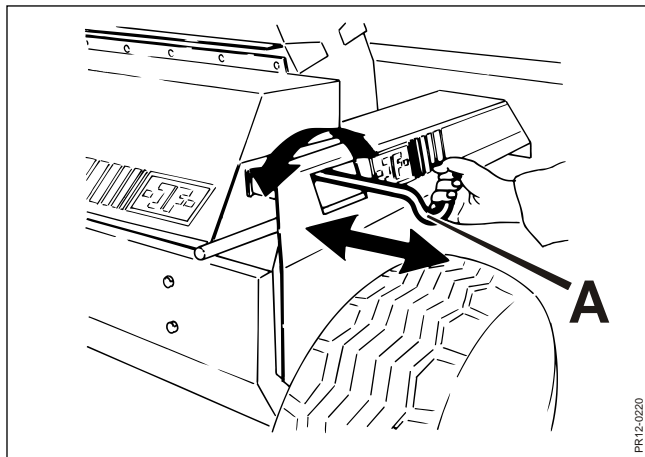

Fig. 4-21
- Fig. 4-21** 3. Adjust the grindstone so that there is 2-3 mm clearance between the stone and the blades by turning the handle **A**.